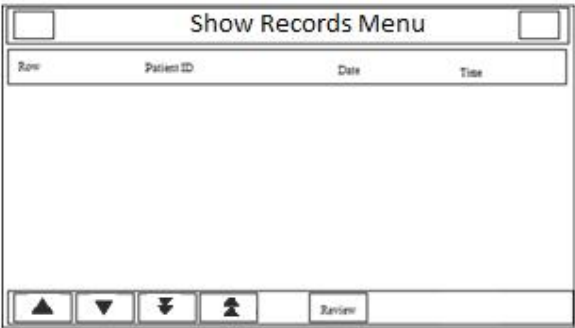

Figure 5-2 Flash Memory
- **Flash Memory:** Select to access Flash Memory (Figure 5-2).